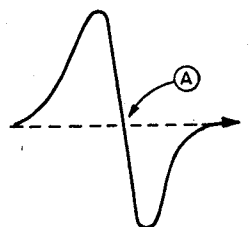

Fig. 3-8. S-Curve of the Focus
- (b) At this time, the output voltage ① changes from negative to positive.
- (c) Furthermore, the S-curve of the focus at this time changes according to Fig 3-8.
The Focus Servo is applied with Point (A) of Fig 3-8 as its operating point. The Focus Search operation is performed and the Focus Servo SW is set to ON while Point (A) of Fig 3-8 is being crossed. In order to also prevent malfunction, the logical product of the operation and the Focus OK signal is obtained.